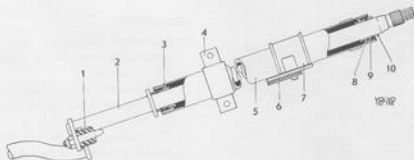

Fig. 6-40. Steering column journaling
The steering column is divided. Its upper section is journaled by means of two ball bearings in a jacket, which is attached to the body by means of a rubber bush (4, Fig. 6-40) and slide (6). The lower and upper sections of the steering column are linked by means of a safety device (1). In the event of frontal collision causing compression of the front end, the lower steering column flange breaks loose from that of the upper section and the lower section pushes upwards. The upper section remains in position and this eliminates possibility of the steering wheel being forced backwards and upwards inside the car.